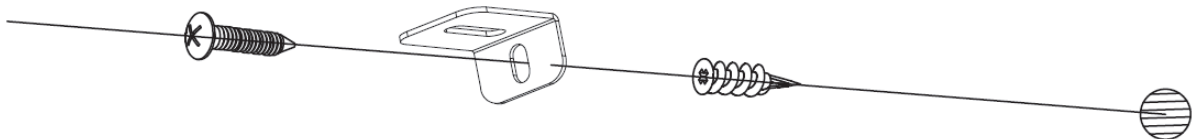

Fig. 4-3
- C.** Install the plastic anchor (**C**) into the drywall, then install the screw **B** (supplied) into the hole of the **L-bracket** into the wall anchor to secure the fireplace from coming off the hooks (**Fig. 4-3**).